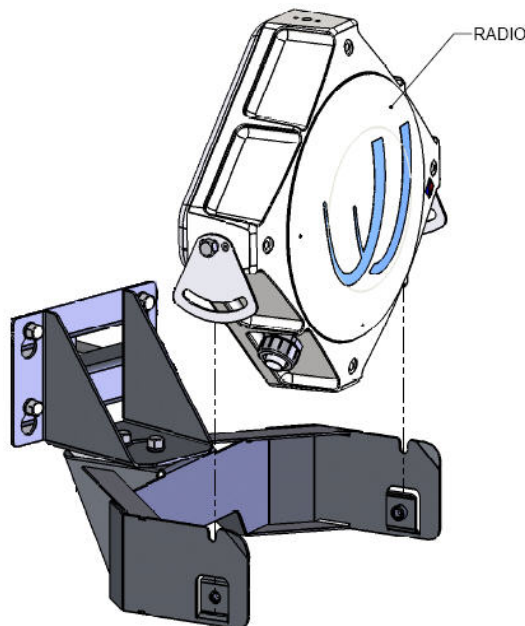

Figure 3-9 Attaching the Radio to the Yoke
2. Place the radio in the yoke; the two up/down pivot bolts should rest in the U's cut in the yoke as shown in Figure 3-9. The drain hole and conduit fitting should be pointed down.